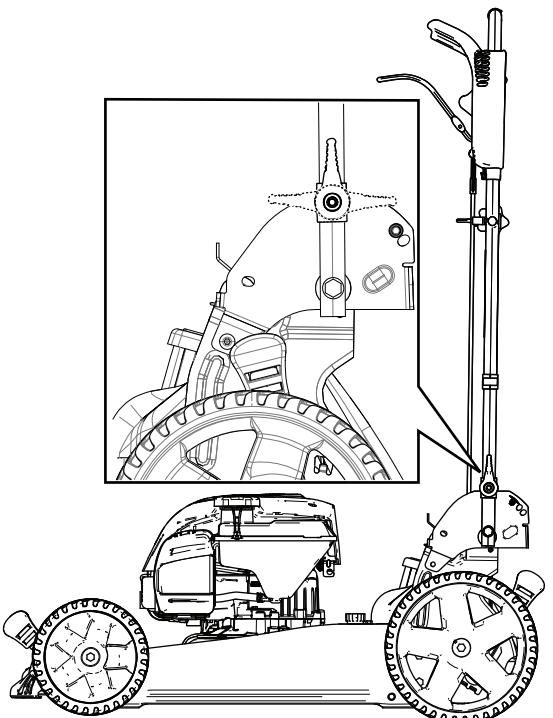

Figure 19
3. Fold the handle forward either to the vertical position or the fully forward position as shown in Figure 19.